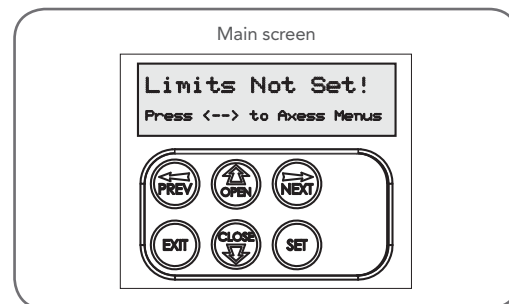

Fig 7.2
- If this is the first time the Axess® 1101 has been used, the MAIN SCREEN should indicate that the limits are not set (**Fig. 7.2**). If the display shows that some input is active then rectify the situation before proceeding. If a default setting is to be changed it should be done now before setting the travel limits.